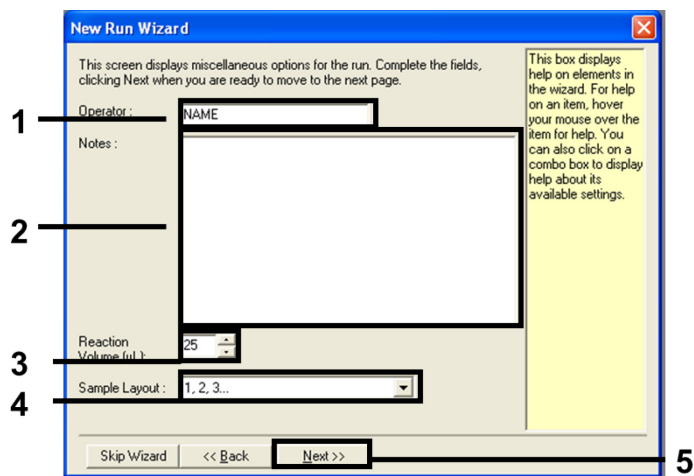

Figure 2. Entering operator name and reaction volumes.
4. Enter the name of the operator. Add any notes and enter the reaction volume as 25. Ensure that “Sample Layout” reads “1, 2, 3...”. Click “Next” (Figure 2).